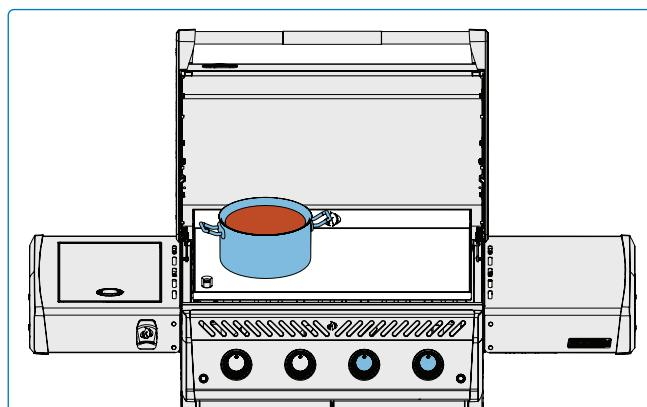

Fig. 11
- Use the griddle plate to melt or warm sauces. Place pots or pans off to one side over low to medium heat. (Fig. 11).